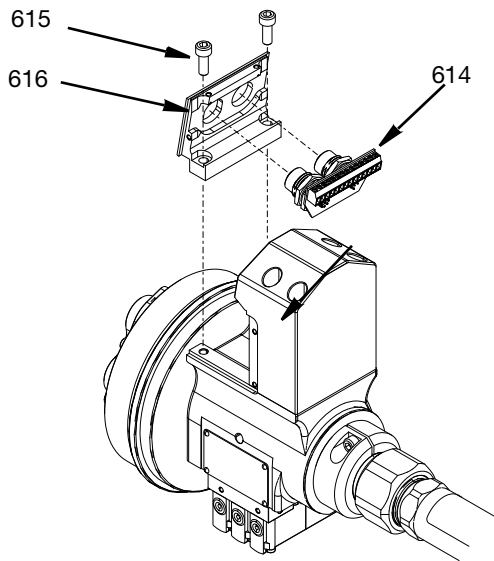

FIG. 38
- Connect solenoid valve cable connections (617) and if equipped, sensor wires from the RTD sensor (609) and /or pressure transducer (610) to the dual cable connector (614). See **5 Pin - No Sensor for 25T991 and 25T994** on page 47 and **5 Pin and 8 Pin Connections for Temperature and Pressure Sensors. Model No. 25T992, 25T993, 25T995 and 25T996** page No. 48.
- Install dual cable connector (614) into dual connector bracket (616) and tighten nuts. Apply anti seize and attach connector bracket to the swivel housing assy (511) with two M5 SHCS screws (615) and torque to 57.5 in-lb (6.5 N•m). See FIG. 38.